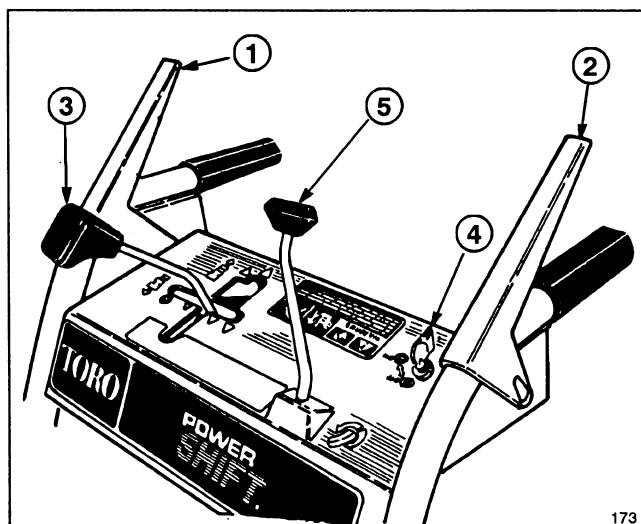

Figure 12
Auger/Impeller Control (Fig. 12)—Control has two positions: ENGAGE and DISENGAGE. To engage both auger and impeller, compress lever against right handle grip. To disengage, release lever.
Traction Drive Control (Fig. 12)—To engage traction (wheel drive) or activate power shift system, lever must be compressed against left handle grip. To stop traction, release lever.
Speed Shift Control (Fig. 12)—The control has a neutral position, four speeds forward and two reverse, and also controls power shifting of wheels. To select speeds, move shift control to desired position.
Auger Lock-Up (Fig. 12)—When the auger/impeller control and traction drive control are both compressed, the traction control locks the auger/impeller control down. Releasing the traction control releases the auger/impeller control.
Discharge Chute Control (Fig. 12)—Rotate discharge chute control clockwise to move discharge chute to the right and counterclockwise to move chute to the left.
Ignition Switch (Fig. 12)—Switch has two positions: ON and OFF. Rotate key to ON position before starting engine. To stop engine, rotate key to OFF.
1. Move speed shift control to N (neutral) and throttle to FAST (Fig. 12).
5. Rotate ignition key to ON (Fig. 12).
1. Release traction and auger/impeller drive controls (Fig. 12).